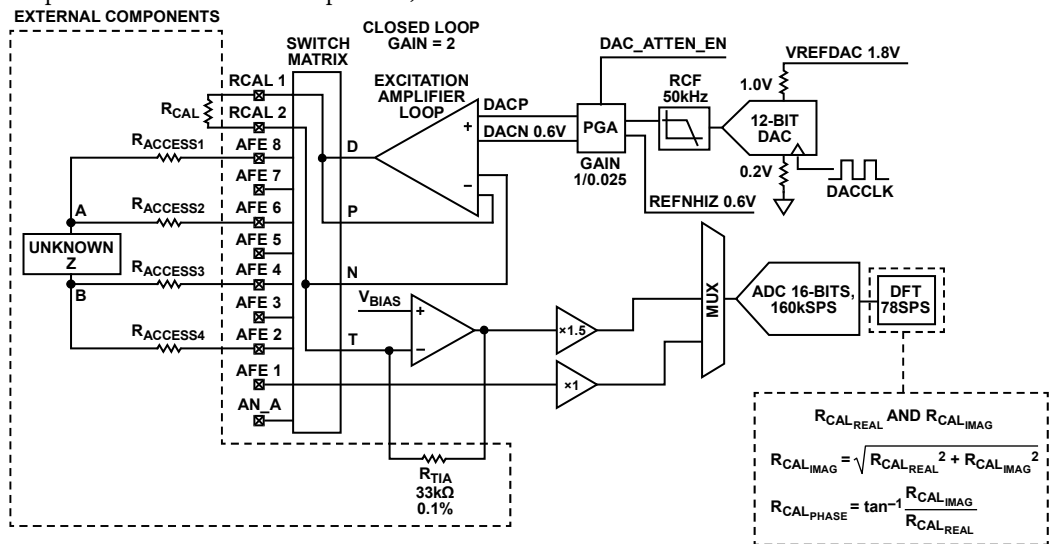

Figure 2. 4-Wire Topology for ADuCM350—Measuring R_{CAL}
1. Measure the impedance of a known precision resistor, R_{CAL} , as shown in Figure 2. An excitation voltage is applied at RCAL 1 with associated D and P switches closed in the switch matrix. The resultant excitation current is measured through RCAL 2, with associated T and N switches closed in the switch matrix. This current is converted to a voltage using the transimpedance amplifier (TIA), where the TIA resistor (R_{TIA}) is optimized for the maximum current seen by the ADC and is converted to a voltage using the ADC. A 2048 point Hann sample is performed on the data to give real and imaginary components of the impedance.
When the current is forced, the access wires to Z also lead to a drop in voltage, which causes inaccuracies in measurement. To remove this loss from the actual measurement of Z, a differential pair of sense lines are connected to Z at Point A and Point B as shown in Figure 2.